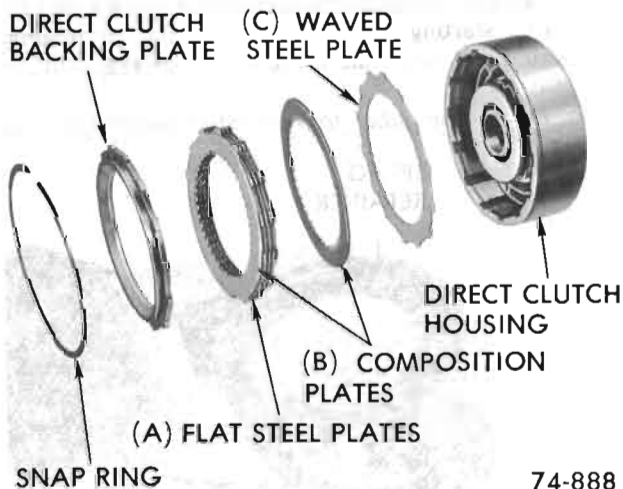

Figure 76-206
6. Inspect the fourteen (14) return springs. Evidence of extreme heat or burning in the area of the clutch may have caused the springs to take a heat set and would justify replacement of the springs.
**NOTE:** The fourteen (14) direct clutch release springs are not serviced. If one of more of these springs require replacement, discard all of them and install the sixteen (16) Service direct clutch release springs.
**NOTE:** See Figure 76-198 for "A", "B", and "C" callouts on Figure 76-206.